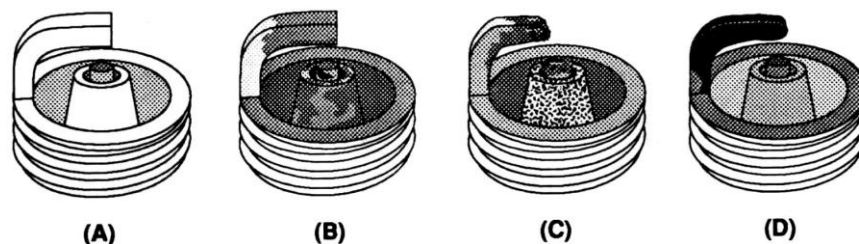

Figure 9 Spark Plug Condition
8. Push the throttle wide open while the engine is off. Each solenoid should make a clicking noise if it is cycling correctly. If no noise is heard, check all the wiring connections and the wiring schematic in Figure 9.
- 2. Perform a dynamometer pull or a full throttle pass down the racetrack. Note the power reading or vehicle mph (not e.t.). Examine spark plugs for the indication of lean or rich nitrous/fuel conditions (refer to Figure 9 for tips on reading the spark plugs).
| No change in engine speed when the fuel solenoid is activated (Preparing for Operation—Chapter 4). | System wired incorrectly.                 | Compare wiring to schematic in Fig. 9.  | Wire per instructions.                                   |
| No change in performance when system is activated.   | System wired incorrectly.                 | Compare nitrous wiring to schematic (Fig. 9).   | Wire system per instructions.                            |
|  | Loose ground wire(s).                     | Connect 12V test light to battery (+) terminal. Check for continuity at grounds noted in Fig. 9.  | Tighten/repair loose grounds.                            |
|  | Malfunctioning throttle microswitch.      | Temporarily disconnect power relay red wire from microswitch. Connect 12V test light to battery (-) terminal. Manually set microswitch ON. Check for continuity at microswitch positive terminal (Fig. 9).  | Replace throttle microswitch.                            |